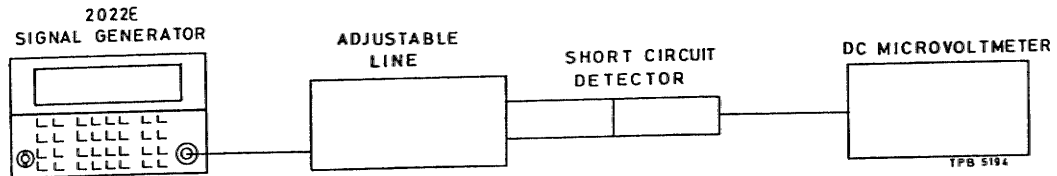

Fig. 5-11 Test gear arrangement to check VSWR above 350 MHz
- (1) Connect the test equipment as shown in Fig. 5-11 and set the 2022E controls as follows :